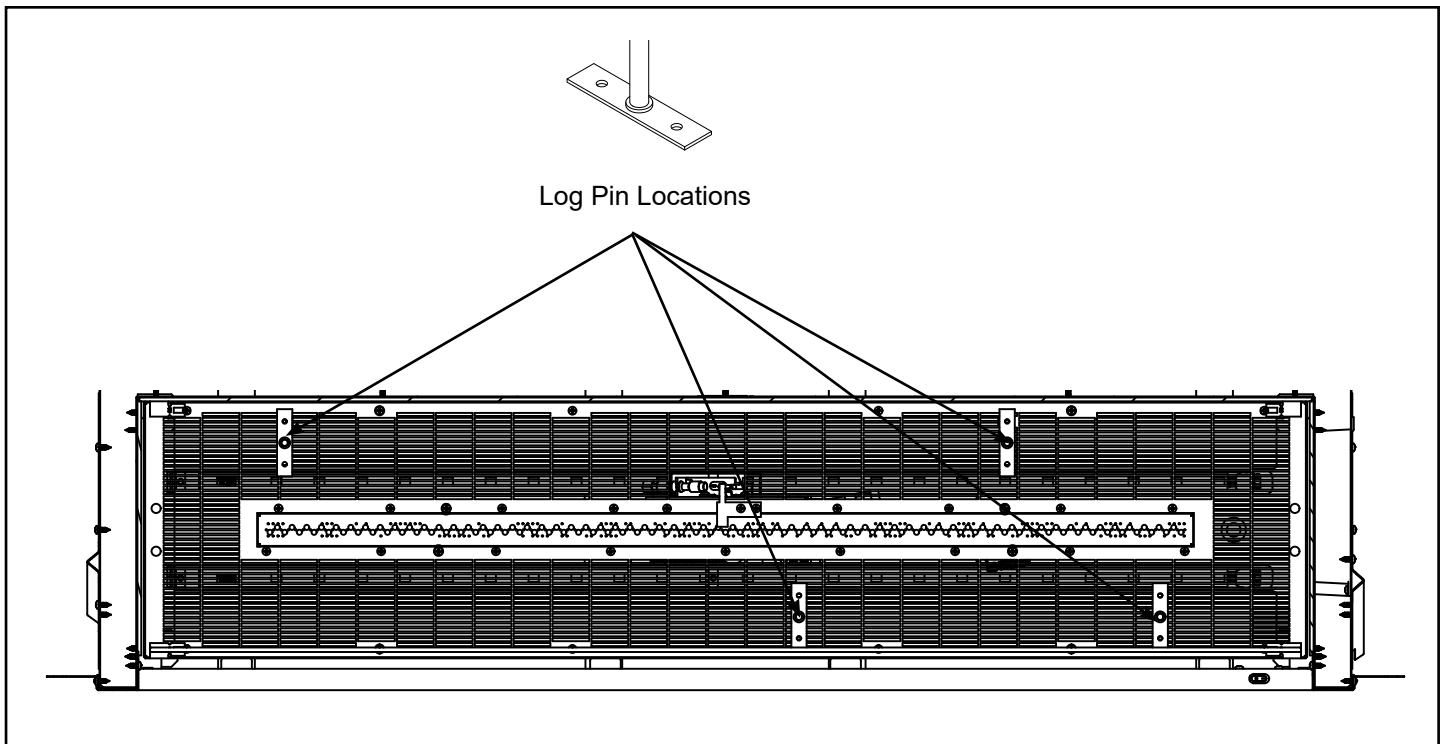

Figure 7.5– Log Pin Placement for AVFL42N(P)IF-BU, AVFL42N(P)IF-RB, AVFL48N(P)IF, AVFLST48N(P)IF, ODLANAIG-48 AND ODLANAIGST-48
**NOTE:** Prior to installing the log set, you must first install the pin brackets on the burner. The air deflection glass and glass media should only be installed after the pin brackets are in place. The air deflection glass should be installed prior to placing glass media on the burner. The logs must then be placed in the unit after the glass media and air deflection glass. If the optional logs are added to the appliance after installation of deflective glass and glass media, move the glass media away from the pin location holes on the firebox bottom assembly as per Figure 7.5 or 7.7.
1. Mount the four log support pin brackets using mounting holes and screws provided in locations indicated in Figure 7.5 for the front and rear log. Only one hole of the pin bracket will be used to secure the pin to the outside of the burner assembly base. The other hole remains unused and rests on the mesh area. Next, arrange glass media evenly across the burner again.